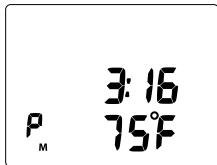

Fig. 80 - DECO STOP ALT 3
**DECO STOP ALT 3**, information includes (Fig. 80) -